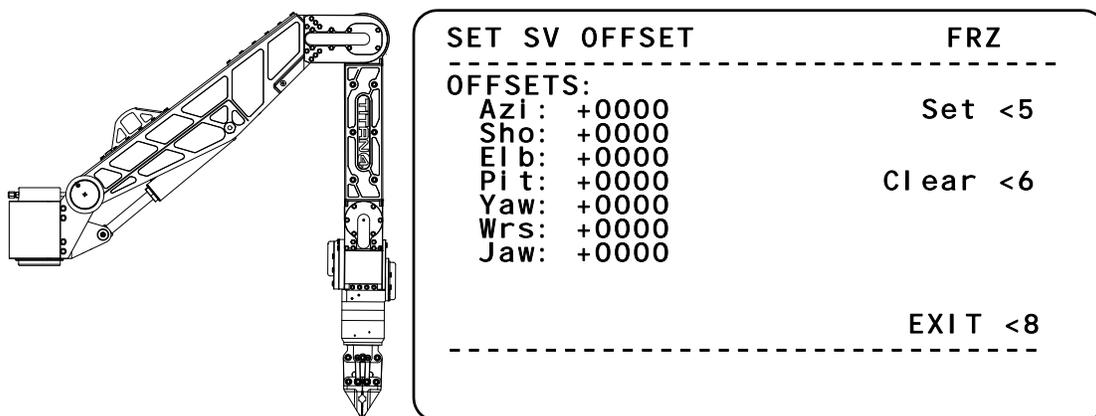

Figure 15 SET SERVO OFFSET screen
4. Adjust the slave arm to the position shown in Figure 15, left.
6. From the MAIN menu, select SETUP<5, then select SET SV OFFSET<7 (Figure 15, right).